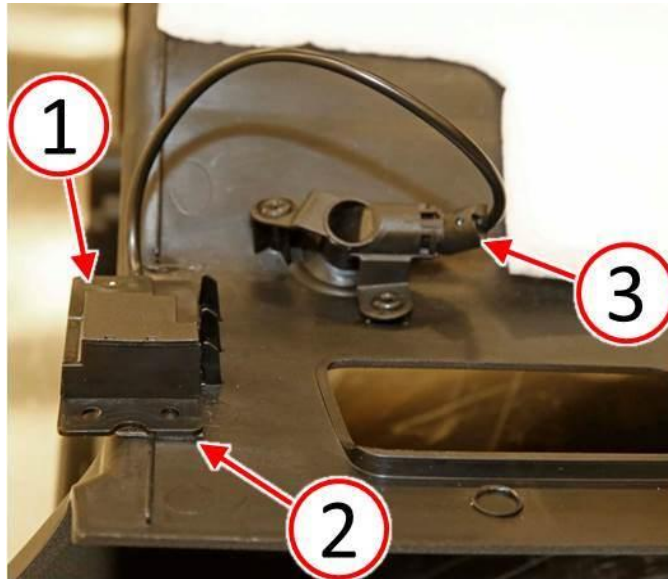

Fig. 24 Install Alarm Sensor And Microphone
52. Press the alarm sensor (1) firmly to the quarter trim panel ensuring complete contact of the attachment tape (2) (Fig. 24).
53. Install the alarm sensor microphone (3) to the reflector cone (Fig. 24).